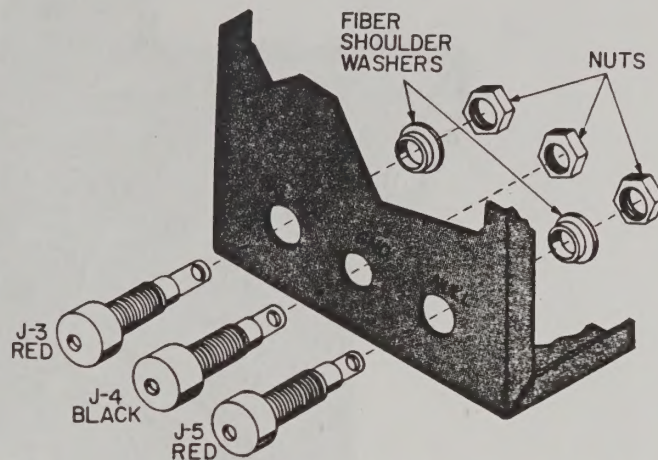

FIGURE 4. PIN JACK MOUNTING
- ☐ Mount J-3, one of the red pin jacks, in the hole marked SIG ADJ. Use a fiber shoulder washer and a nut to hold J-3 in place. See Figure 4.
- ☐ In a like manner, mount J-5, a red pin jack, in the hole marked NULL. See Figure 4.
- ☐ Mount J-4, the black pin jack, in the hole marked GND. DO NOT use a fiber shoulder washer. See Figure 4.